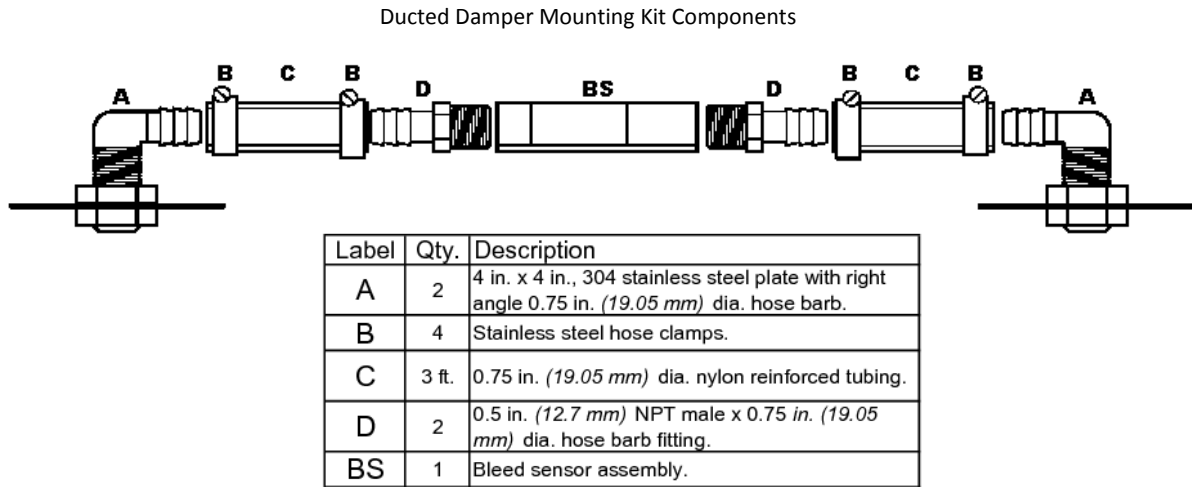

Figure 1. Ducted Damper Mounting Installation Kit Components
This document provides the instructions necessary to install the Bleed Airflow Sensor in ducted damper control applications for relief and return damper control. Figures 1 and 2 show mounting kit components and installation details for the Ducted Damper Mounting kit.
The following paragraphs detail installation of bleed sensors in ducted damper applications for relief and return damper control. Refer to Figures 1 and 2 for installation details.
- d. Install tubing as shown in Figures 1 and 2, and secure with the pipe clamps provided. Keep tubing straight to avoid kinks.